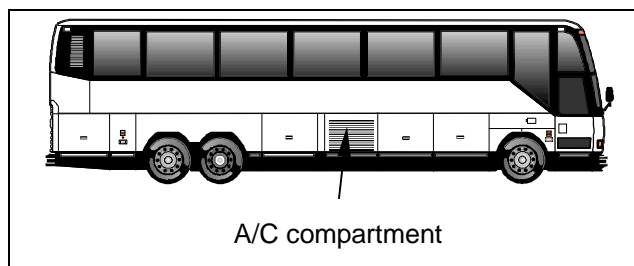

FIGURE 1: A/C COMPARTMENT
1. Remove the bolts, washers and nuts holding the receiver tank to its support brackets in the A/C compartment (Figures 1 and 2).